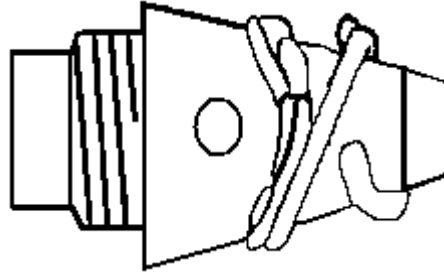

FIGURE 12. M525/M527 PD
(1) Point Detonating, M525 and M527 (Figure 12.)